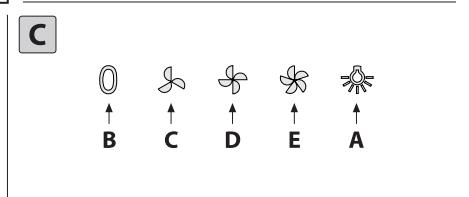

Fig.12
- **Commands mechanical** (Fig.12.A.B.C) the key symbols are explained below: